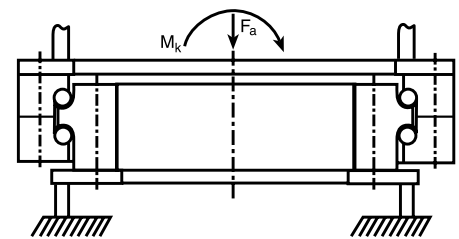

Figure 12: "Supported" axial load Bolt tension results from M_k only.
- a) The axial load F_a acts as compression load, i.e. the axial operating force F_a resulting from the axial load does not subject the bolts to tensile stress (compare Figures 12 and 13).